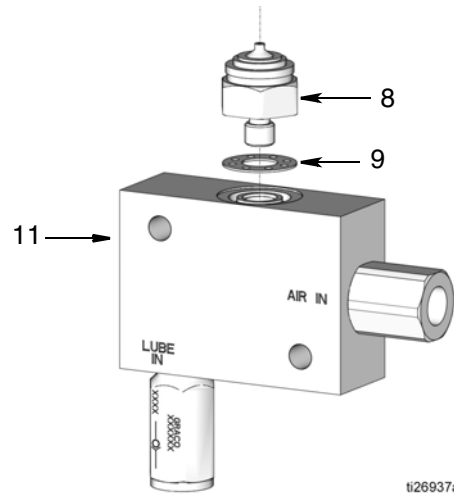

FIG. 11
3. Apply a thin layer of oil to gasket (9). Seat gasket (9) in the valve body (11). Install the valve spray cap (8). Torque cap to 6 ft-lbs (8.14 N•m) (FIG. 11).